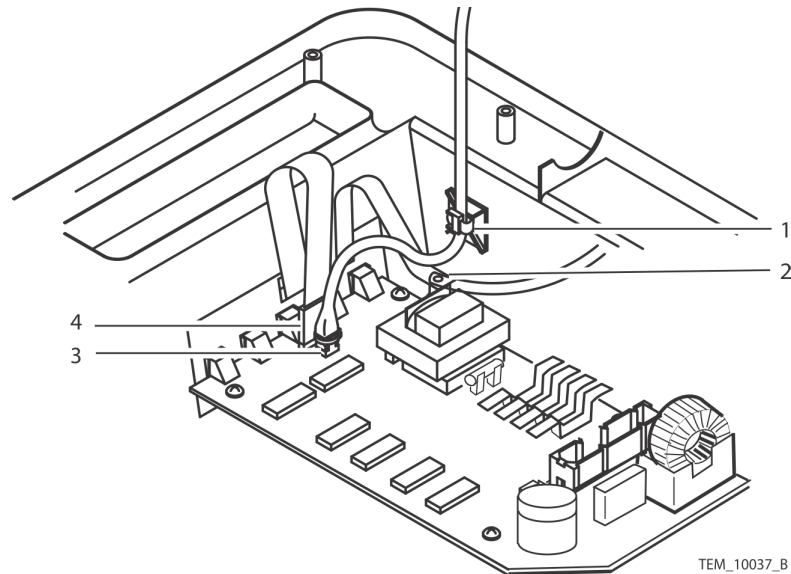

Figure 27. Cable Connections
18. Connect the ribbon cable connector (Figure 27, item 4).
19. Connect the thermistor cable connector (Figure 27, item 3).
20. Install the cable tie around the thermistor cable connector and Control PCB connector (Figure 27, item 2).
21. Connect the key pad grounding strap and blower ground wire. See Figure 27, item 2. Tighten the screw to 4 to 6 in/lbs (10 to 15 cm/kg).
22. Install the cable tie around the thermistor cable and the cable tie mount (Figure 27, item 1).